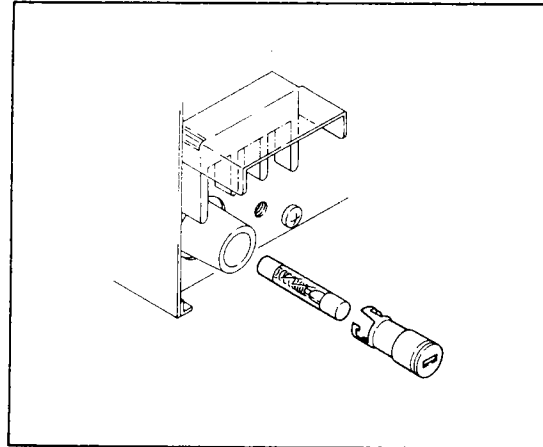

Figure 6-5.
- (3) Make sure that the new fuse rating is correct, and mount the fuse by turning the knob clockwise (see Figure 6-5).
Turn the knob of the fuse holder counterclockwise, and the holder will slide out with the fuse (see Figure 6-5).